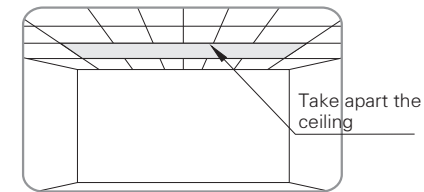

figure 1
1. Choose a position according to the required space, and then take apart the ceiling (figure 1). Please measure the distance H between roof and ceiling surface correctly (figure 2)